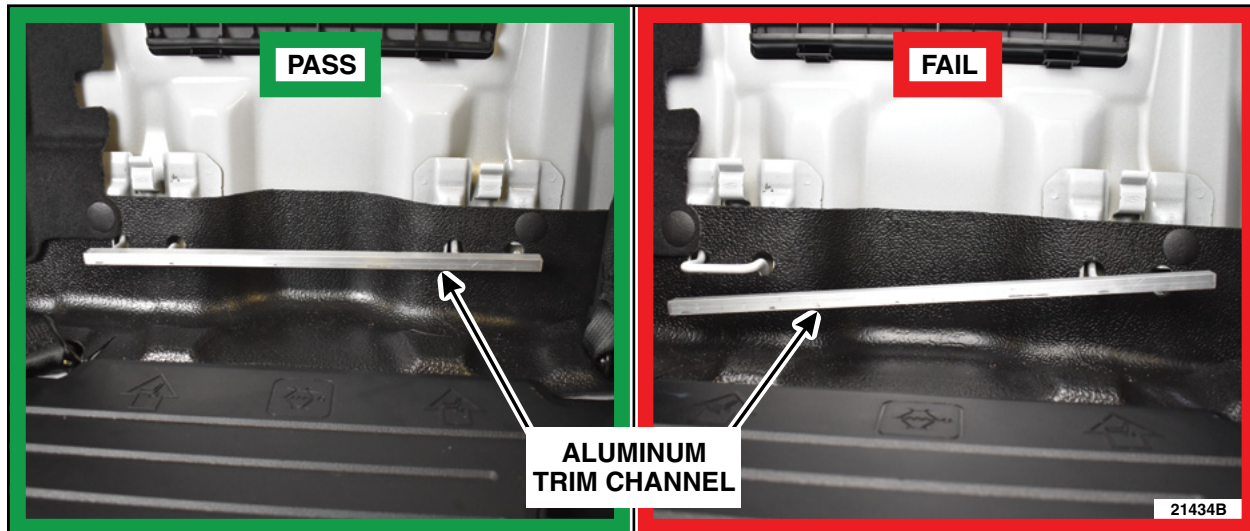

FIGURE 5
6. On both sides of the vehicle, place the 1/4 inch (6.35 mm) aluminum trim channel over the child restraint anchors. If the aluminum trim channel fits over both of the child restraint anchors that side of the vehicle is considered a pass. See Figure 5. Did either rear RH or LH child restraint anchors fail?